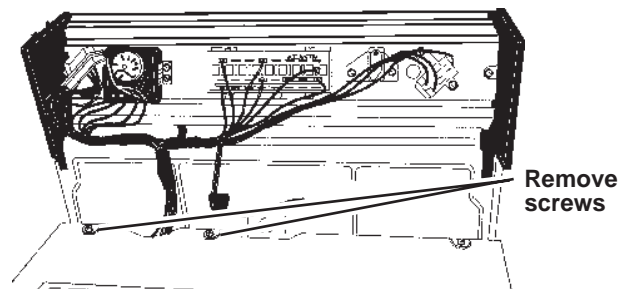

Figure 2
3. Remove three (3) screws located at the back of the dryer top. See Figure 2.